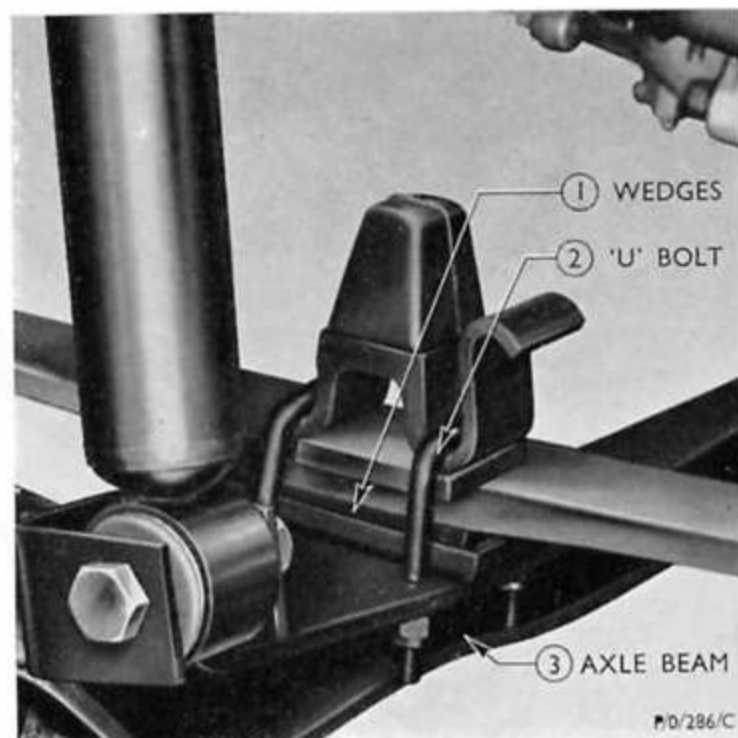

Fig. 1
5. **Locate the spring** on the axle, with the thicker end of the wedge to the rear (see Fig. 1).